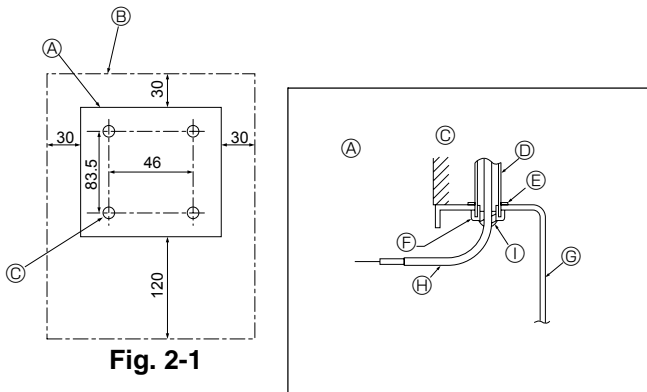

Fig. 2-1
(1) Select an installing position for the remote controller. (Fig. 2-1)
[Fig. 2-1]